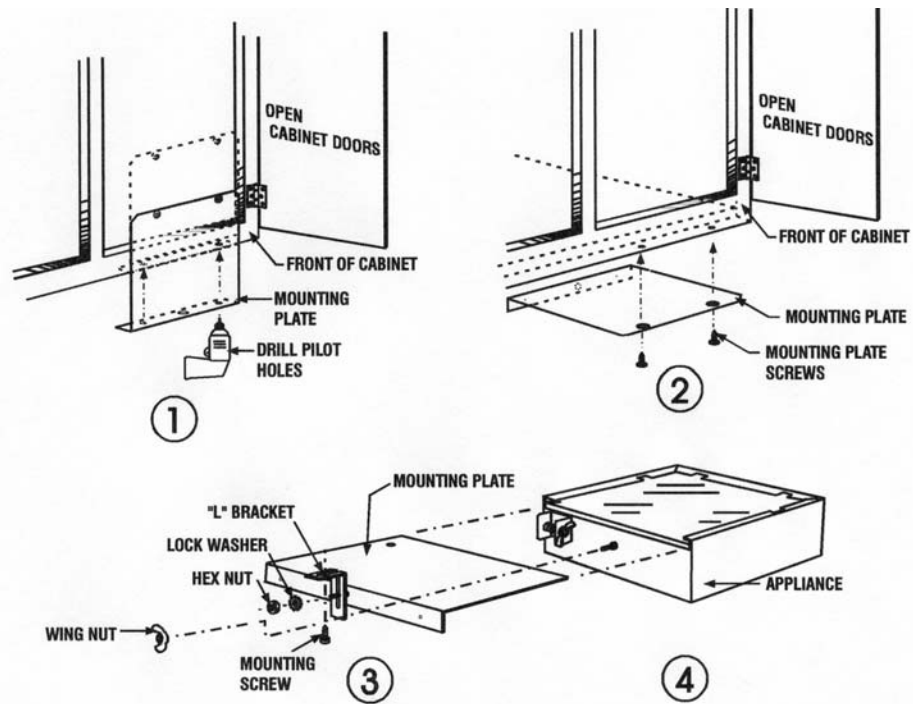

Fig. 2
SET UP: (See Fig. 2)
TO INSTALL THE APPLIANCE PROPERLY, FOLLOW DIRECTIONS BELOW AND FIGURE 2 ABOVE.
- Remove the brew cone from the appliance and remove the wing nut (See Fig. 2, Illust. #3) from the lower mounting screw and slide the mounting plate out from the rear of the appliance.
- Loosen, but do not remove, the nut holding the "L" bracket to the rear of the mounting plate. Holding the mounting plate in place flush along the bottom edge of the cabinet facing (See Fig. 2 Illust. #1), drill two (2) 3/32" Dia. pilot holes on the cabinet using the 2 holes provided on the mounting plate flange to assure that the mounting screws will go in easily and not damage the cabinet.
- After drilling the two (2) pilot holes, hold the mounting plate in place (Fig. 2, Illust. #2), install two (2) screws through the holes provided at the front edge of the mounting plate and tighten. This will mount the front of the mounting plate.